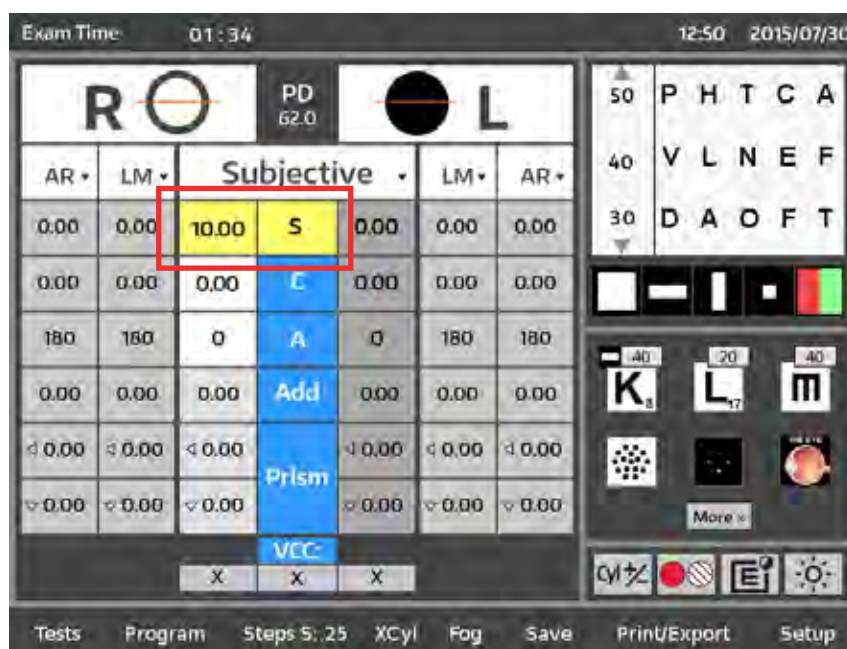

Figure IU-08 Sphere Active Boxes
1. Activate the Sphere value field by touching the **S** box in the main display area of the screen, activating the Sphere value field for both eyes. Refer to Figure IU-08